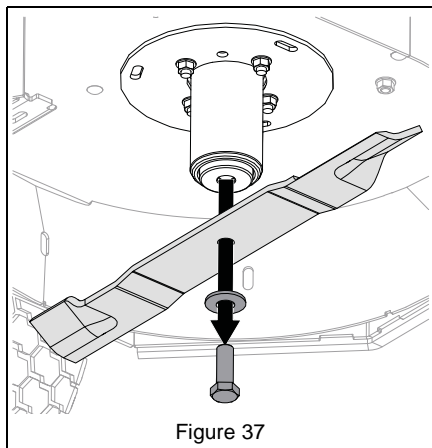

Figure 37
- See Figure 37.
See Figure 37.